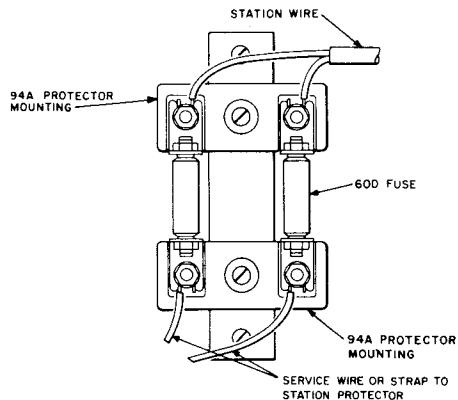
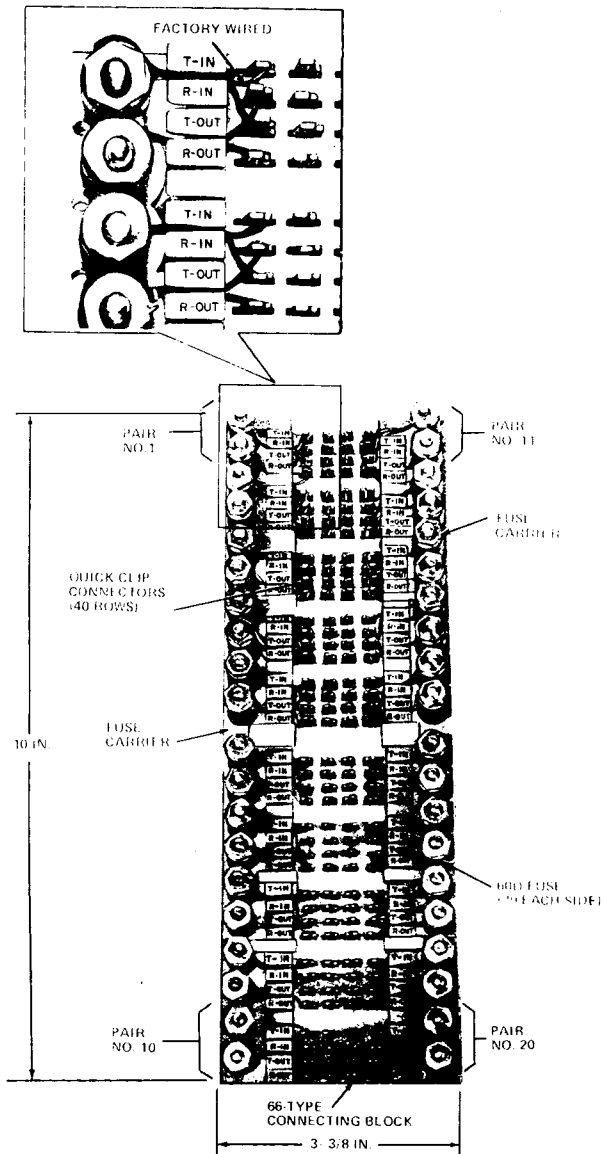

Fig. 64—1094A Protector
Fig. 65—191A1-20 Protector
The 60D fuse is mounted in a 1094A protector (Fig. 64), or 191A1-20 protector (Fig. 65).
10.04 1094A Protector: The 1094A protector (Fig. 64) consists of a metal base with two No. 94A protector mountings and two 60D fuses.
10.05 191A1-20 Protector: The 191A1-20 protector (Fig. 65) is a combination protector and terminating field intended for use with 66-type quick-connect hardware.